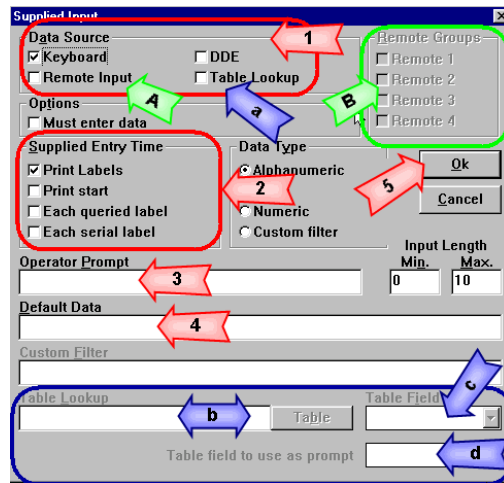

Figure 1-22
1.31. Note that the *Data Source* specified is *Keyboard*. (Figure 1-22 Arrow 1)
1.32. Note that the *Supplied Entry Time* specified is *Print Labels*. (Figure 1-22 Arrow 2)